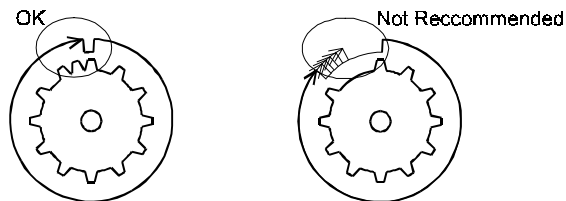

Figure 20 For Long Pulses Use Extra Tooth Wheel
3. Long duration pulses that begin and end within a wheel's missing tooth area can exhibit significant jitter. Use an extra tooth wheel for these applications. See Figure 20.